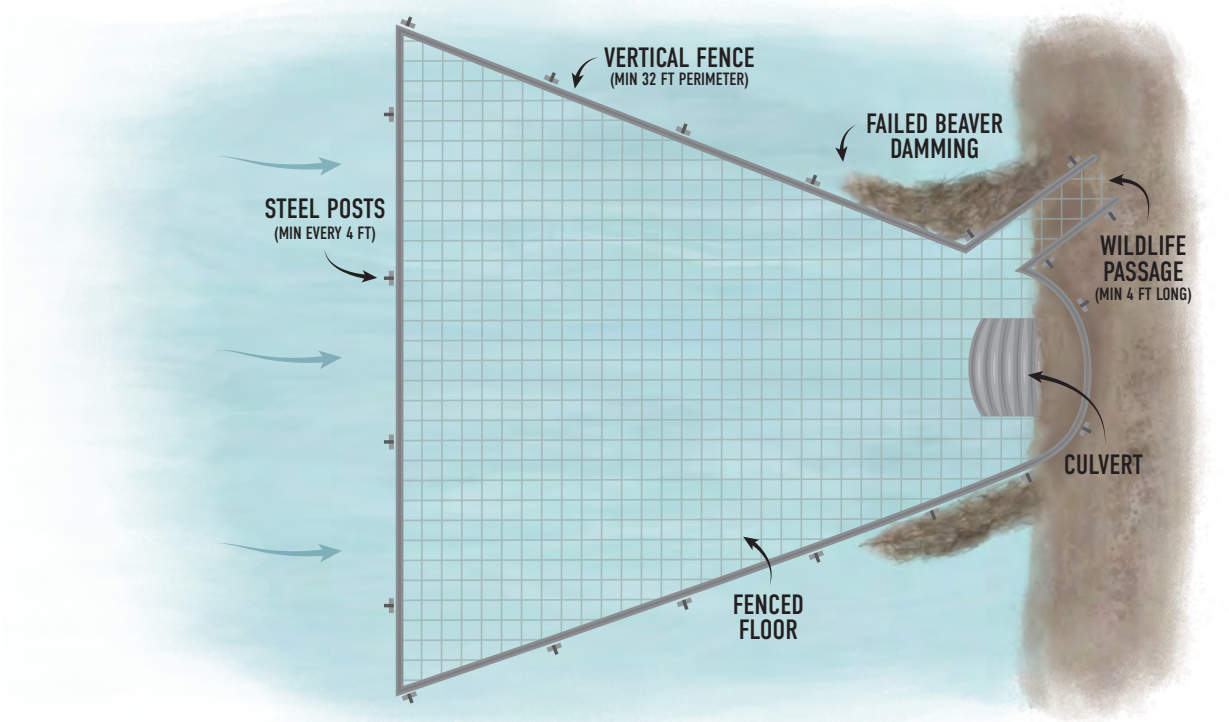

Figure 8. Trapezoidal culvert fence.
A **trapezoidal culvert fence** (Figure 8) protects the culvert by physically excluding beavers from the area around the culvert inlet using wire fencing. The shape of the fence also alters the physical and auditory cues that promote dam building. Beavers will often start to construct a dam along the two sides of the fence enclosure nearest to the culvert, but generally abandon the dam building as the angle of the fencing pushes them out into still water where they no longer detect the sensations of flowing water. As a result, a majority of the fence remains unobstructed.
- **Facilitate wildlife passage:** Leave an opening in the exclusionary fence that runs up onto dry land to provide an exit for other wildlife that may use the culvert to move up and down the stream (Figure 8).
8. Construct one opening with side walls in the trapezoid's perimeter that extends a minimum of 4' long across dry ground onto the road bank. Extend a floor in this terrestrial wildlife passage from the floor of the flow device to the end of the passageway (Figure 8) and infill with small rocks and other on-site materials to provide solid footing. Build this passage minimum of 16" wide and minimize exposed sharp wire ends for both wildlife and human safety.